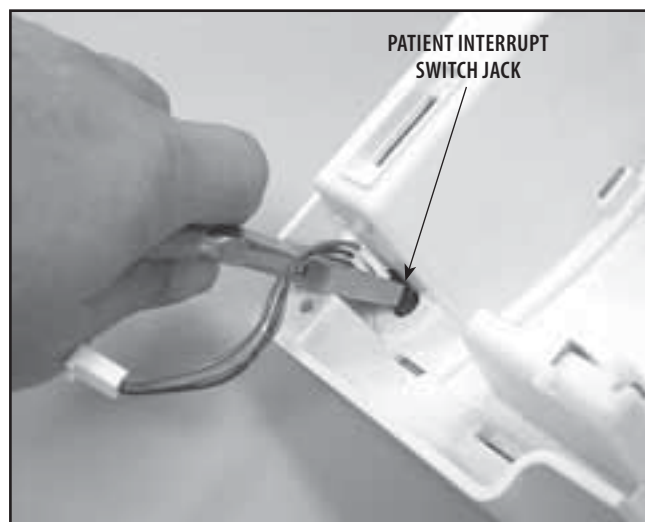

FIGURE 6.12
To replace the Front Cover with a new part, remove the Patient Interrupt Switch Jack from the old Front Cover for re-installation onto the new part. See Figure 6.12.
- a. Install Patient Interrupt Switch Jack into new Front Cover. See Figure 6.12.